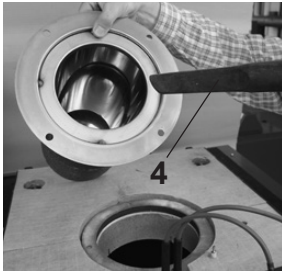

Fig. 27
12. Remove released dust and dirt particles with a vacuum cleaner (4, Fig. 27).